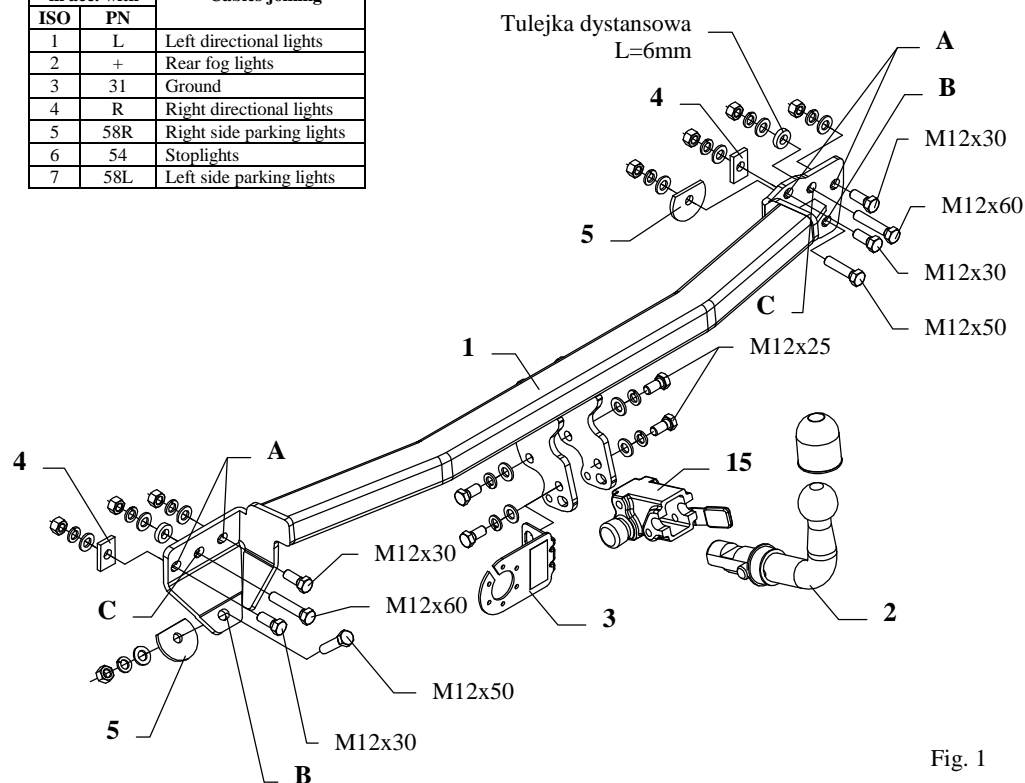
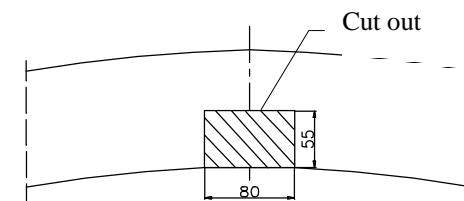

Fig. 1
Fig. 3
2. Unscrew the metal part of the bumper and then remove four bolts from points (pos. A, see the fig. 1) (use the angular polishing to remove). In the axis of symmetry cut out the fragment 80x55mm, as shown on the fig. 3.
3. Apply the main bar of the towbar (pos. 1) to the back piece and fix through holes (pos. B) using bolts M12x50mm (pos. 9) together with truncate washer (pos. 5).
4. Place four bolts M12x30mm (pos. 10) in holes (pos. A) – do not fix!
5. Through holes (pos. C) drill holes $\varnothing 13\text{mm}$ and then fix with bolts M12x60mm (pos. 8). Use distance sleeves (pos. 6), as shown on the fig. 1.
6. Remove bolts M12x30mm (pos. 10) from holes (pos. A) and then apply the metal bumper and fix with washer (pos. 4) using bolts M12x30mm (pos. 10).
8. Fix body of the automat (pos. 15) and the socket plate (pos. 3) using bolts M12x25mm (pos. 7) from accessories. Place tow-ball (pos. 2) according to supplied instruction.